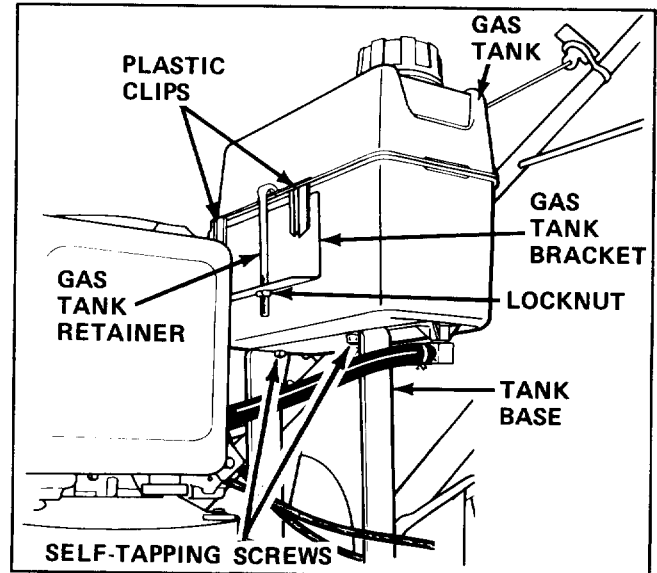

Figure 2
1. Hook the plastic clips on the rear of the gas tank onto the gas tank bracket (Fig. 2).
2. Secure gas tank to tank base with (2) self-tapping screws (Fig. 2). Do not overtighten screws.
3. Hook gas tank retainer onto gas tank and slide end of retainer into hole in tank bracket. Secure retainer to tank bracket with locknut (Fig. 2). Do not overtighten locknut.